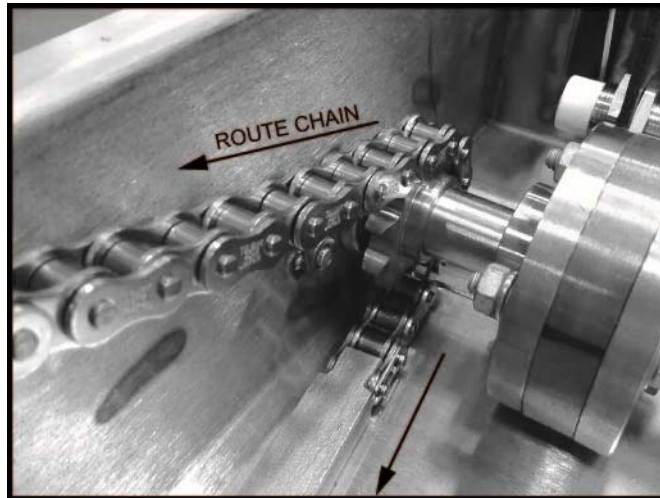

FIGURE 2-10: ROUTE CHAIN ACTUATOR ASSEMBLY (LH SIDE SHOWN)
- b. Refer to **Figure 2-10**. Install pre-assembled chain assembly by routing onto small sprocket of motor drive assembly.